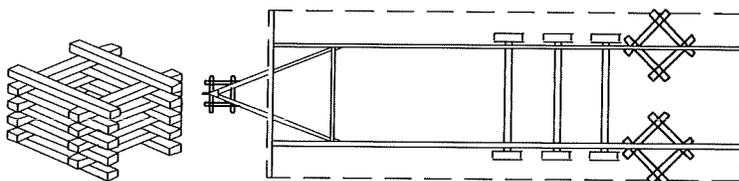

Figure 17. Stack 4" x 6" by 5' long timbers as shown to form safety timbers. Place safety timbers under home behind axle area and under hitch.
- Make sure adequate safety cribbing (**Figure 17**) is in place whenever the home is placed on jacks.
2. **Install cribbing.** Install safety cribbing (**Figure 17**).